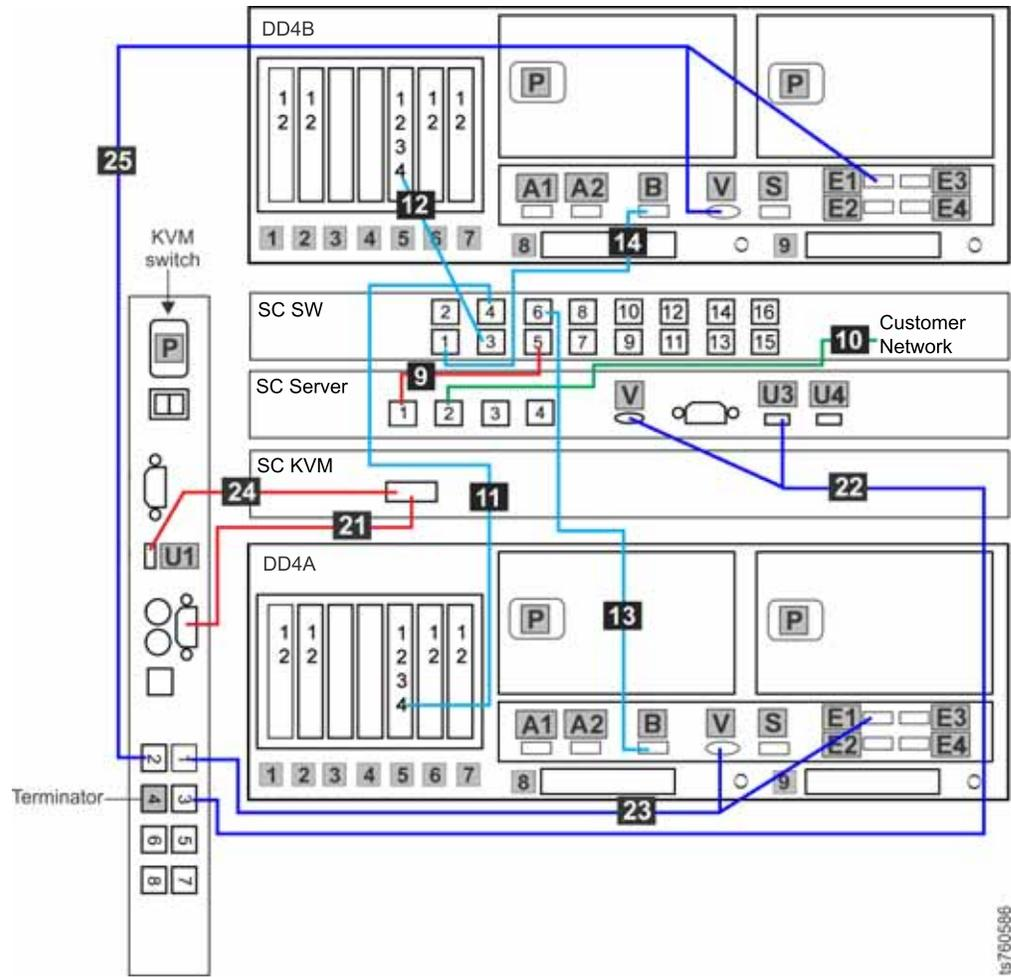

Figure 23. Clustered TSSC, KVM and customer network Ethernet connections for VTL configuration
Depending upon the model of the TSSC and TSSC network switch being used, the port layout may differ from what is shown in Figure 23 on page 57. If so, label the cables according to the port number assignments specified in Table 20 on page 57, regardless of the position of the ports on the TSSC or the switch.
1. Label and connect Ethernet cables (Cat 5e or higher) according to Table 20 on page 57 and Figure 23 on page 57.